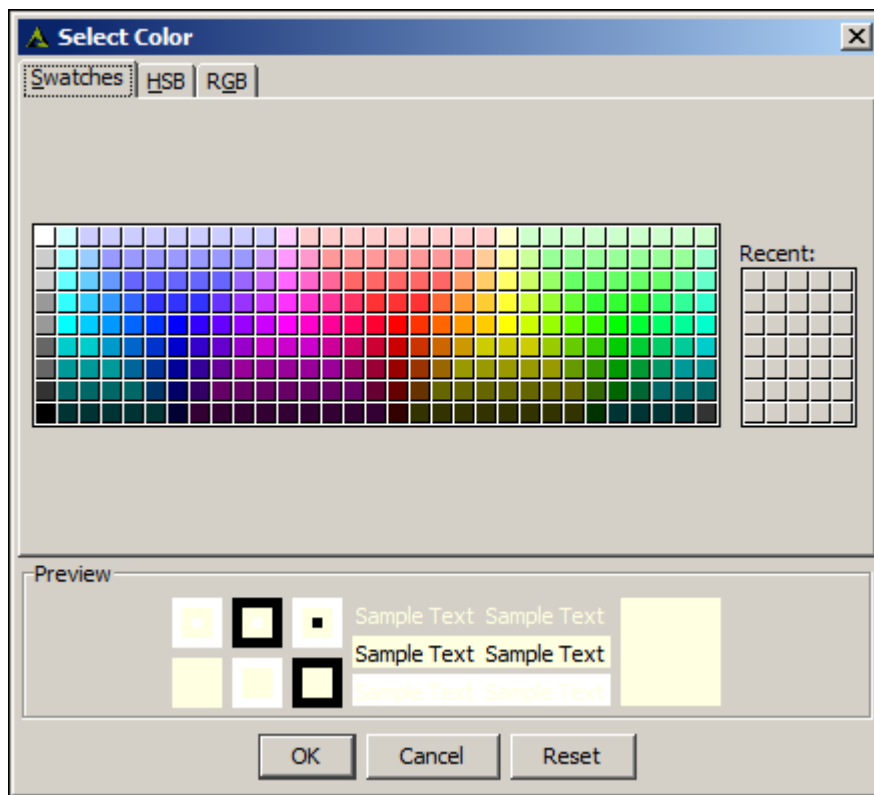

Figure 47: Select Color
2. The **Select Color** screen is displayed (see Figure 47).